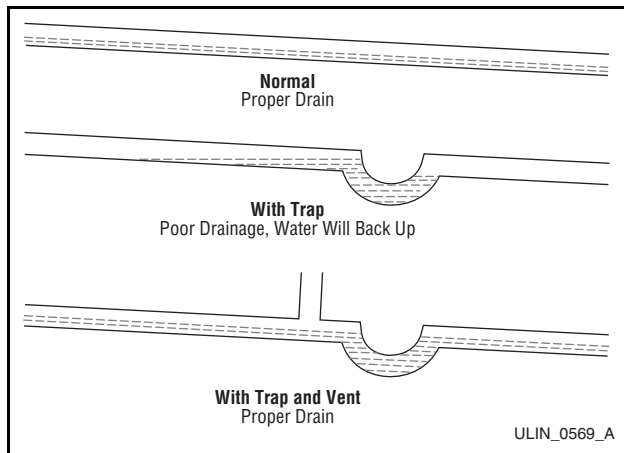

Figure 3
- Drain line does not create traps or created traps are vented (**Figure 3**).